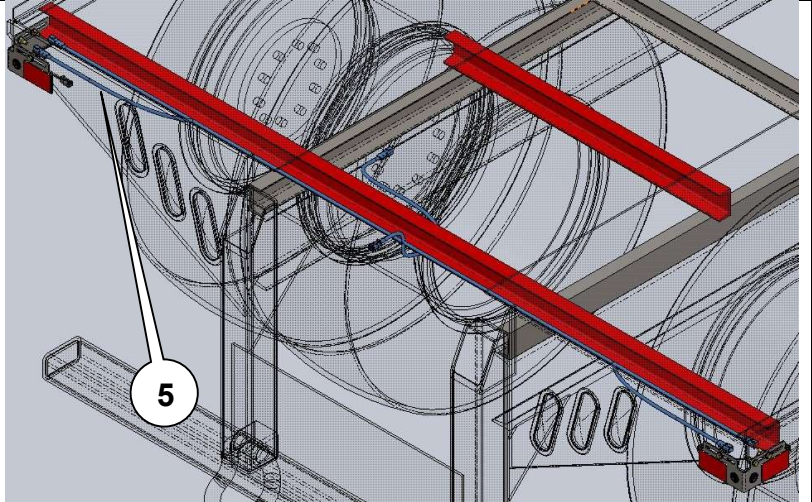

Figure 3
Procedure 3 – Install wiring harness (Figure 3)
2. Position wiring harness (5) as shown in Figure 3.
Procedure 4 – Testing and securing wires (Figure 3)